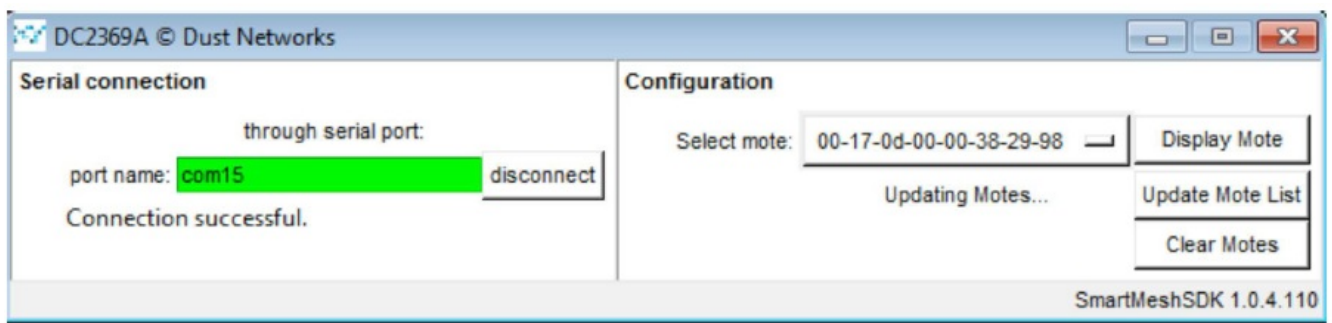

Figure 4. DC2369A GUI Successful Connection
6. In the port name field, enter the COM port that corresponds to the Manager API. This is typically the last of the four COM ports added. Then click the connect button. The GUI window will change as shown in Figure 4 if the connection is successful. If you don't know what the Manager API COM port is, refer to the SmartMesh IP Tools Guide for instructions.